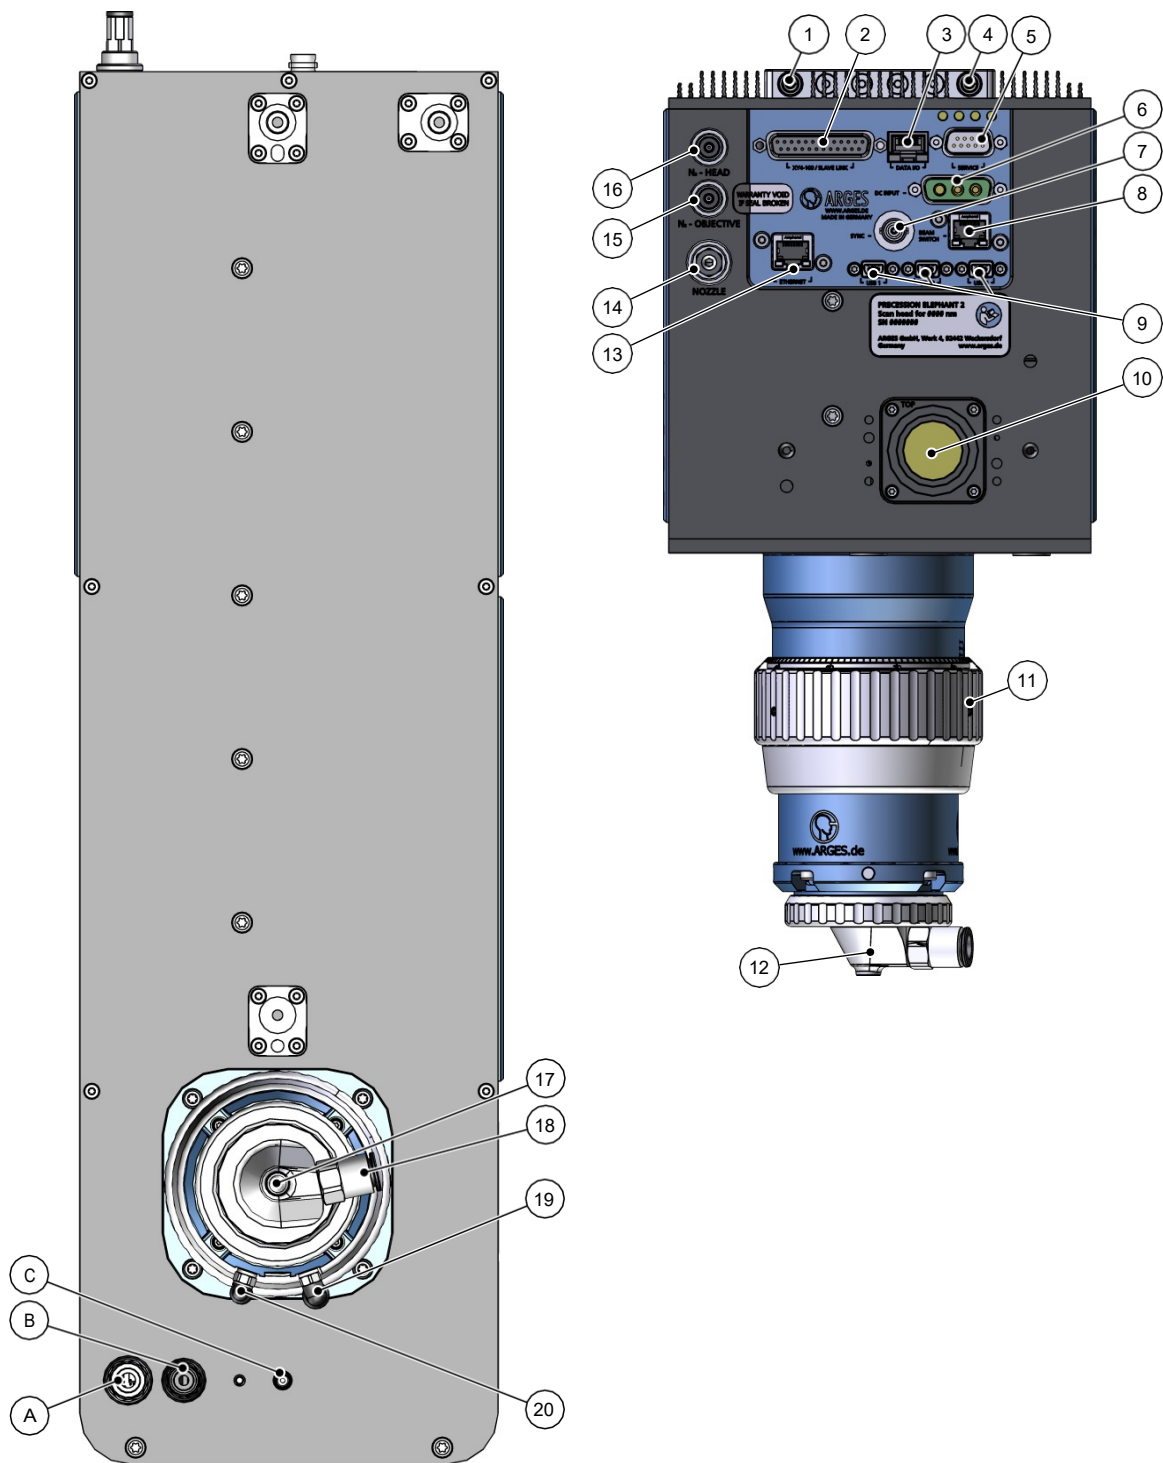
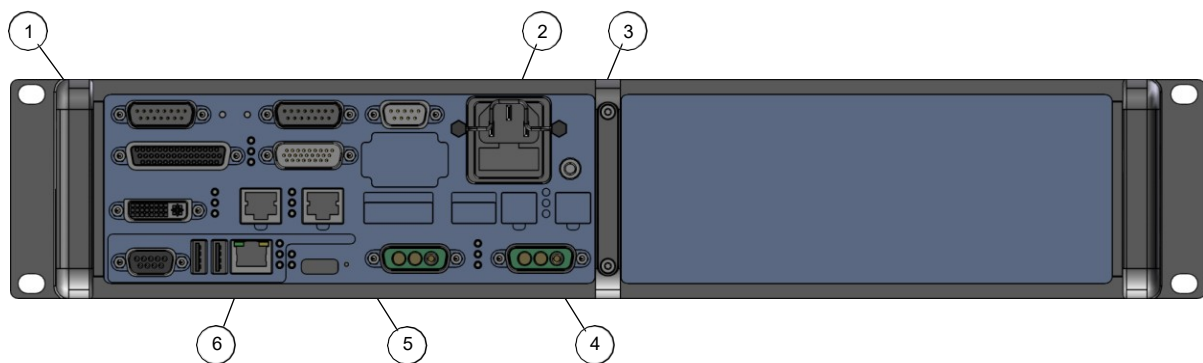

Figure 2: Connectors at the scan head PRECESSION ELEPHANT V2.X
Figure 3: Connectors at the ASC-2 system controller's rear panel
1. Remove the transportation lock plate from the scan head beam entry, see Figure 2, no. ⑩ on page 20.
2. Remove the tape from the scan head beam exit, see Figure 2, no. ⑫ on page 20.
Connect the scan head to the supplies, see Figure 2, Table 4 on page 20 ff., and to the ASC system controller, see Figure 3 and Table 5 on page 25 ff.
Table 4: Legend to Figure 2
Table 5: Legend to Figure 3